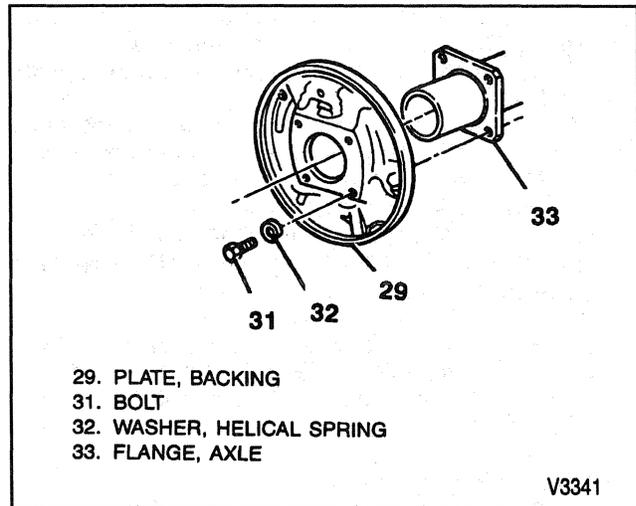

Figure 5—Backing Plate Replacement
**Remove or Disconnect (Figure 5)**
3. Bolts (31) and washers (32).
4. Backing plate (29).
**Install or Connect (Figure 5)**